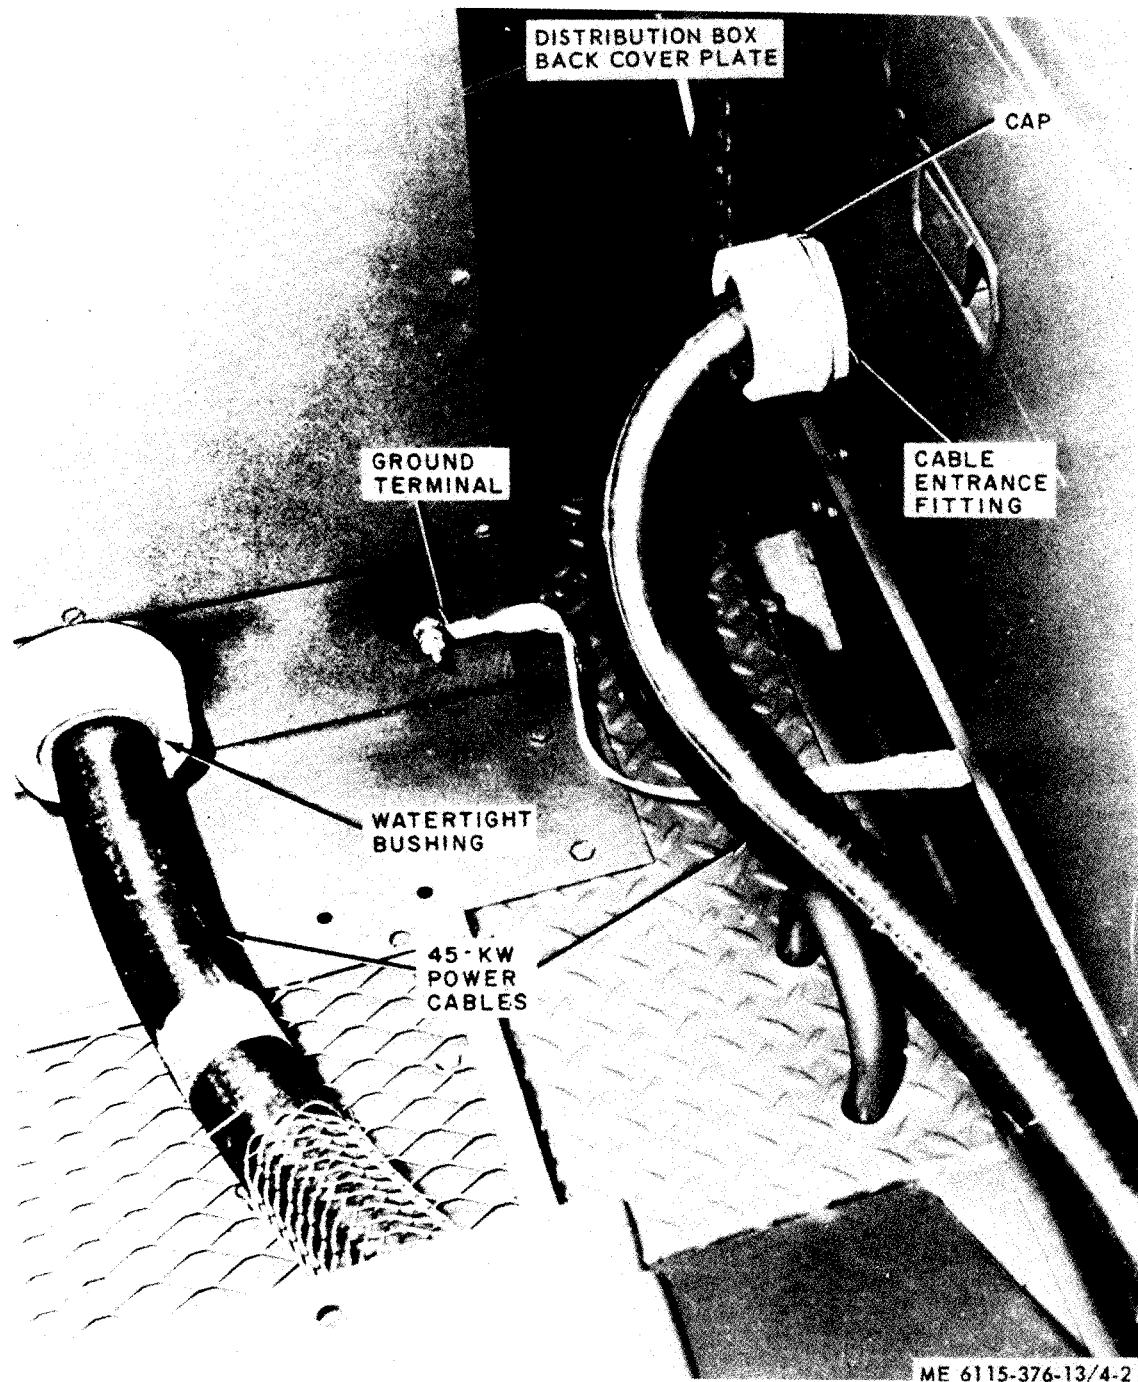

Figure 4-2. Removal and installation of 45KW power cables (PU-407/M; (PU-408/M similar).
(1) Remove screws and remove distribution box back cover plate (fig. 4-2).
(2) Loosen cap at cable entrance fitting at bottom of distribution box; slide cap back on power cable.
(3) Loosen watertight bushing inside cable entrance fitting and slide it back on distribution box.
(4) Loosen locking nuts and remove the four cable leads (not shown) from distribution box bus bar terminal (fig. 4-2).
(5) Withdraw cable and slide off bushing and cap.